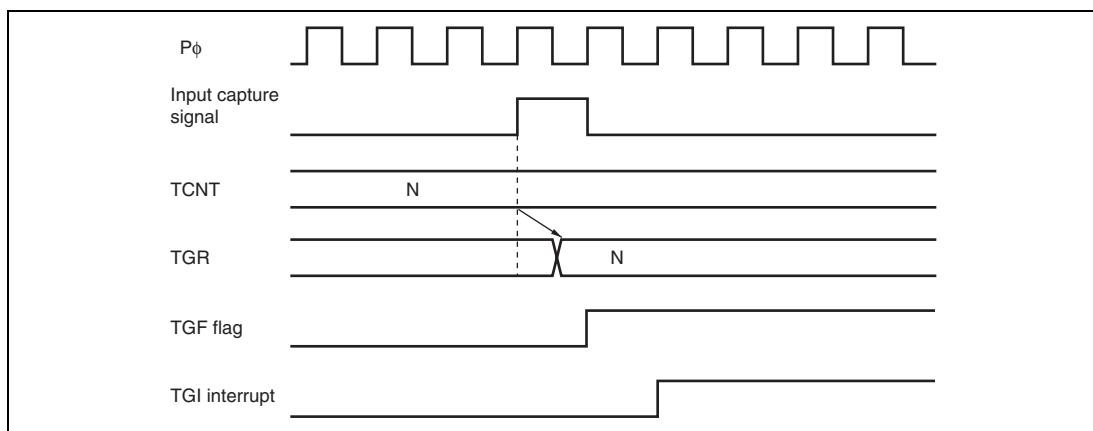

**Figure 11.65 TGI Interrupt Timing (Input Capture)**
**TGF Flag Setting Timing in Case of Input Capture:** Figure 11.65 shows the timing for setting of the TGF flag in TSR on input capture, and TGI interrupt request signal timing.